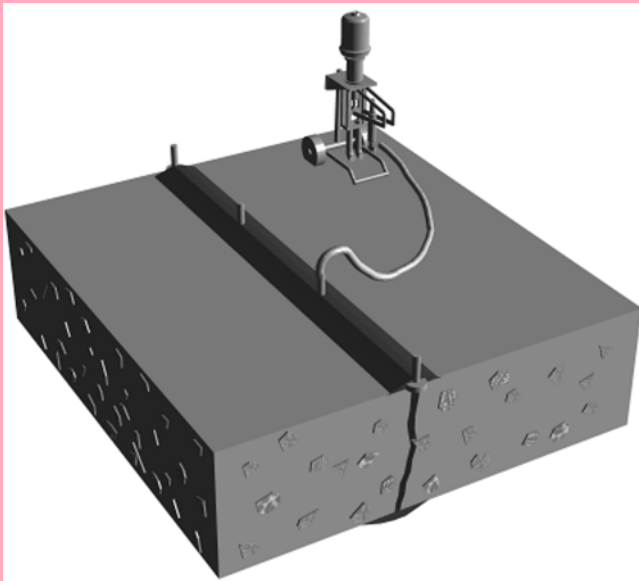

Fig. 4—Start injection at widest segment of the crack.
3. Inject the epoxy (see Fig. 4 and 5).